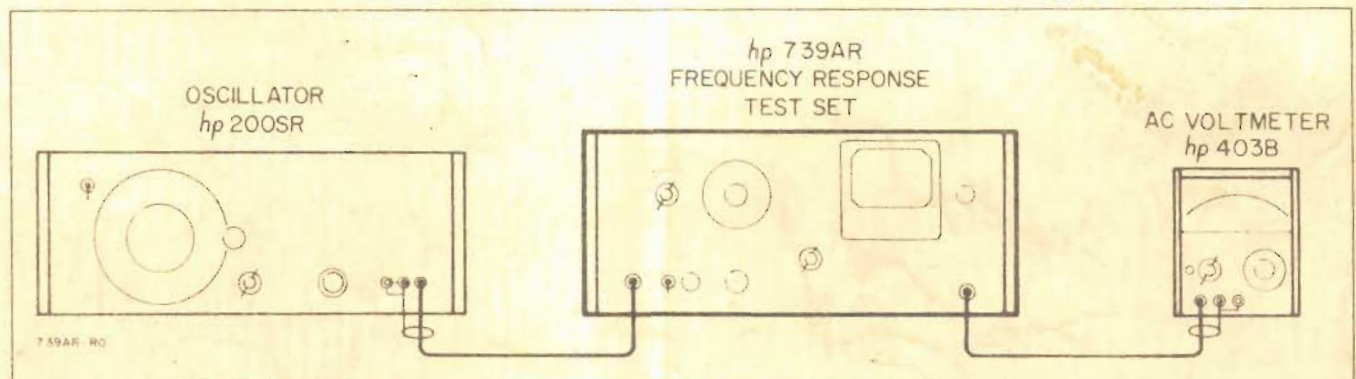

Figure 5-1. Meter Set Control and Amplitude Check Setup
- a. Connect the instruments as shown in Figure 5-1 using the input cable BNC to BP and the output cable (internal 50 ohm load) 739A-16A.
5-10. Remove the ac voltmeter from the test setup in Figure 5-1 and proceed as follows: